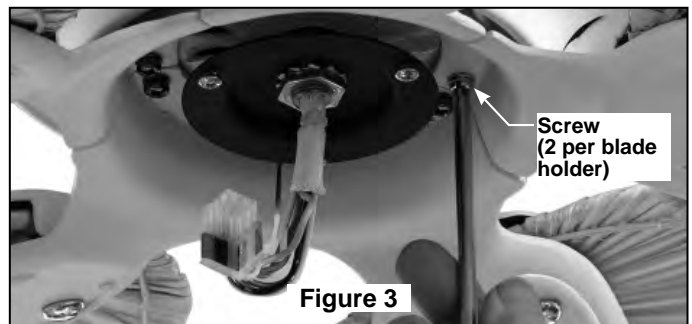

Figure 3
3. Loosen the two setscrews in the Downrod Support. Align the Clevis Pin holes in the Downrod with the holes in the Downrod Support. Install the Clevis Pin and secure with the Hairpin Clip. (Figure 3) Be sure to push the straight leg of the hairpin clip through the hole near the end of the clevis pin until the curved portion of the hairpin clip snaps around the clevis pin. The hairpin clip must be properly installed to prevent the clevis pin from working loose. Pull on the Downrod to make sure the clevis pin is properly installed.
4. Route wires and cable through Motor Coupling Cover and Canopy on fan shown with open side facing up. (Figure 3)
4. Carefully lift the fan and seat the downrod/hanger ball assembly on the hanger bracket that was just attached to the ceiling joist. Be sure the groove in the ball is lined up with tab on the hanger bracket. (Figure 3)
5. Attach the safety cable to ceiling support cable. Slide cable clamp onto safety cable (from fan). Place the end of cable through the loop of ceiling support cable. Pull as much cable through loop as possible. Feed end of cable into clamp hole and firmly tighten screw (Figure 3). Cut off excess safety cable.
5. Attach assembled blades and blade holders to the motor hub using the provided screws & lock washers. (Figure 3)